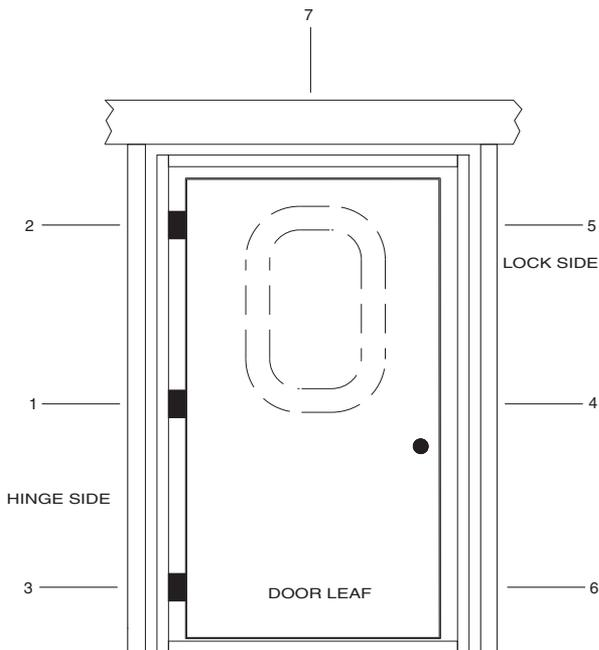

Figure 5
3. While holding the door frame flat against the exterior of the wall, fasteners should be installed in both jambs and at the head; install at the designated mounting locations making sure that you get at least a 1" penetration from the door jamb or head into the wall studs. See Figure 5 for order of placement.